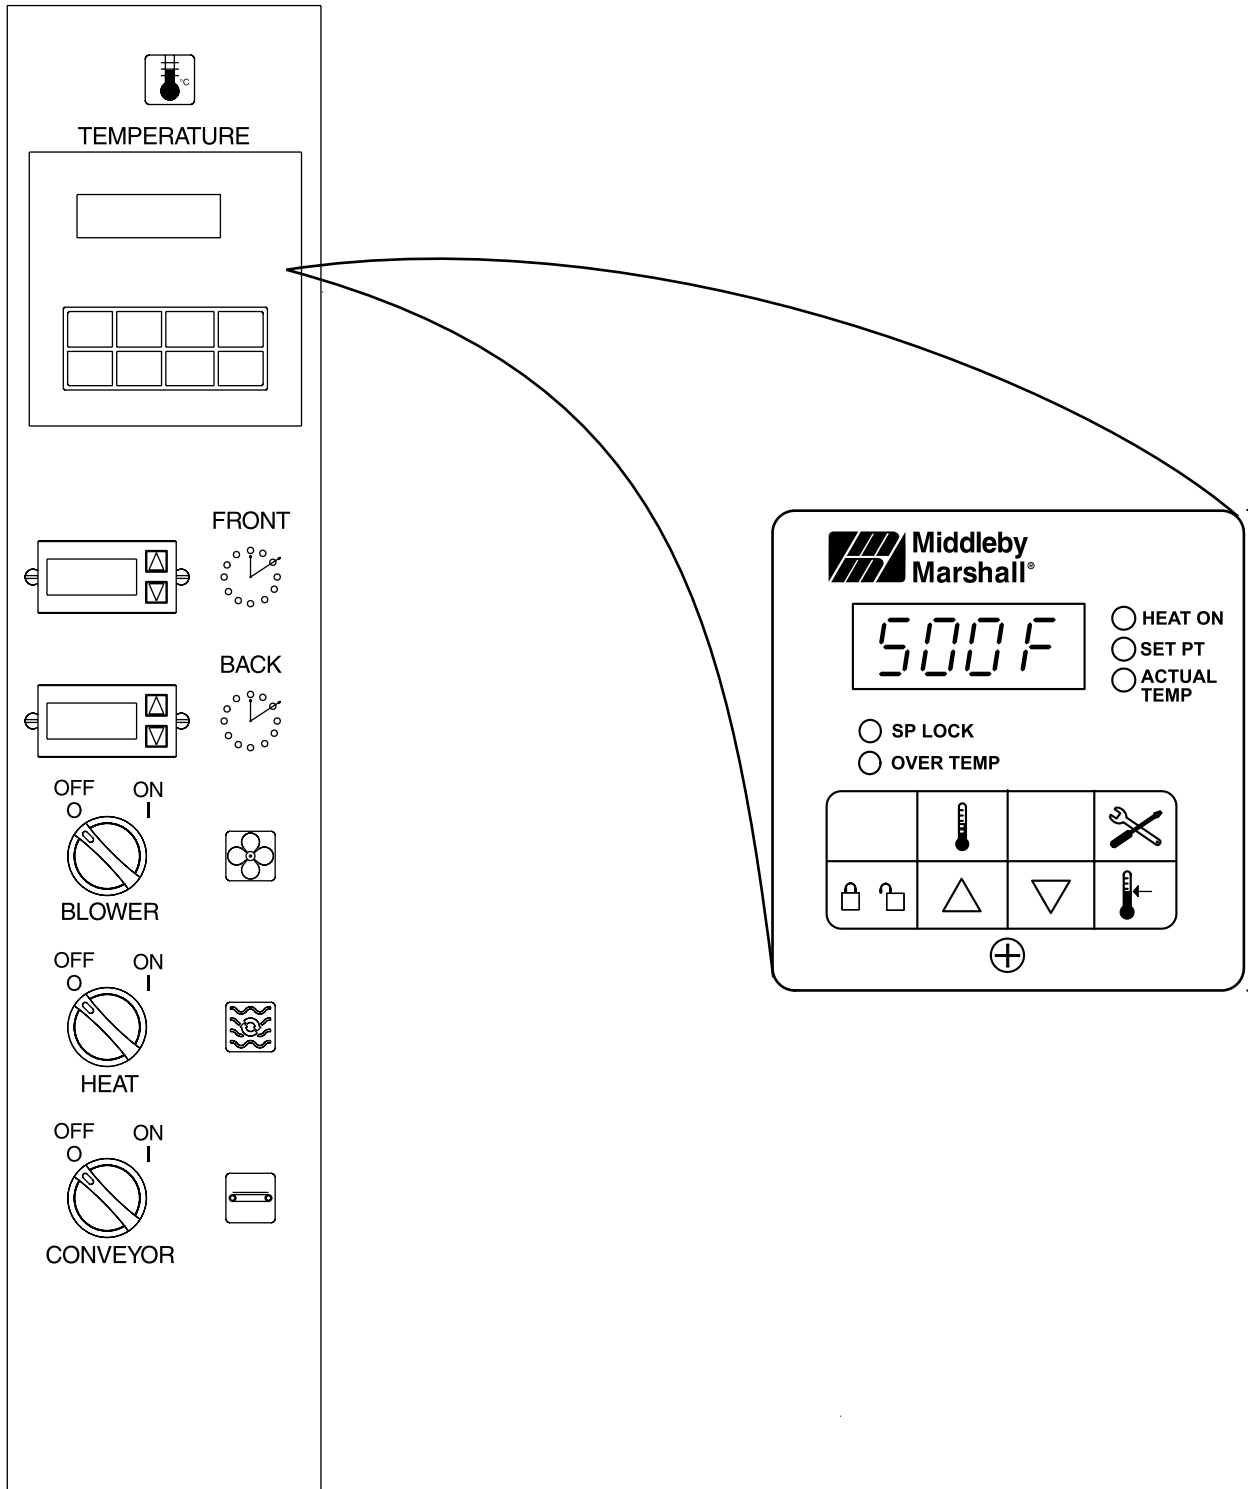

Figure 3-6. Control Panel
1. Turn the BLOWER switch (Figure 3-6) to the "ON" or "I" position. This starts the main blower fan and the cooling fan. The blower circulates air through the air fingers and must stay on during the cooking or baking process.
2. Check to see if the cooling fan (see Figure 1-8) is operating when the blower switch (see Figure 3-6) is turned "ON" or "I". The cooling fans cool the control components and burner blower motor. The cooling fan, located at the rear of the electrical control cabinet blows air into and through the cabinet. Air is exhausted through the front of the cabinet and also out the front of the oven. Refer to Daily Maintenance Section for fan intake checking procedure.
3. Turn the CONVEYOR switch (Figure 3-6) to the "ON" or "I" position. This starts the conveyor belt moving through the oven. Set the conveyor speed for the desired baking time. Refer to the following Procedures E, F and G.
5. Turn the HEAT switch (Figure 3-6) to the "ON" or "I" position. This completes a circuit to supply electric power to the burner. When an oven that has not been in operation for approximately 1/2 hour is turned on, it goes through a 30-second purge cycle. The burner blower motor will not operate during the time the blower fan is purging the oven. After 30 seconds, the burner blower motor starts, which can be detected by feeling a slight vibration when touched. This permits the burner to light.